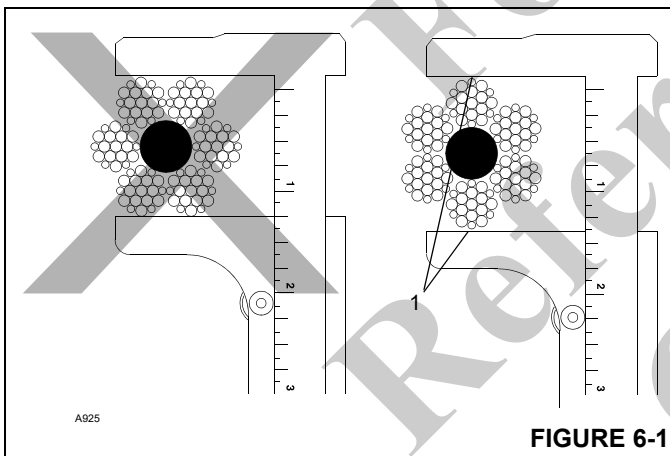

FIGURE 6-1
- Measure the rope's diameter across crowns of the strands when determining if rope has become damaged, refer to Figure 6-1.